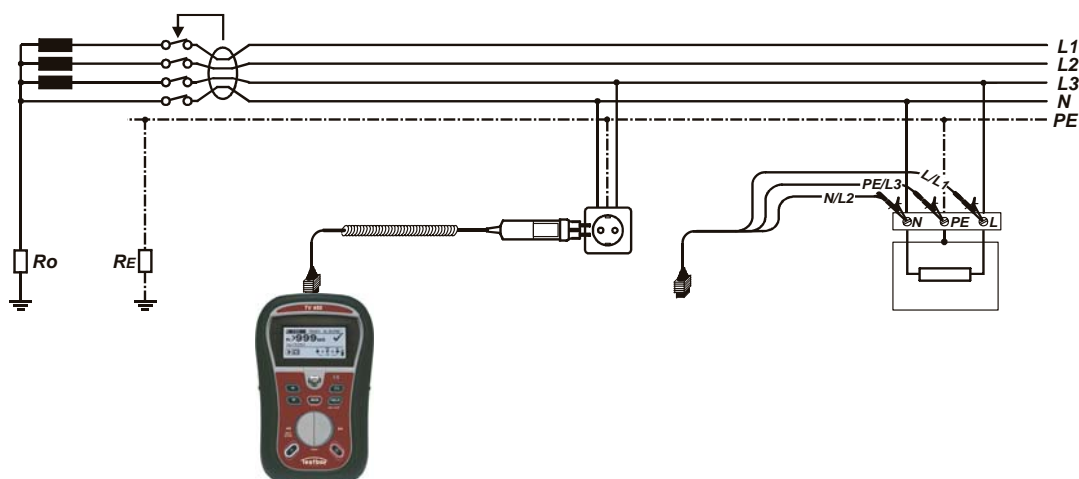

Figure 5.17: Connecting the plug commander and the 3-wire test lead
- ❑ **Connect** test leads to the item to be tested (see figure 5.17).
- ☐ **Connect** test leads to the item to be tested (see *figure 5.17*).
- ☐ **Connect** test leads to the item to be tested (see figure 5.17).
<ul style="list-style-type: none"> <li><input type="checkbox"/> Select the RCD function using the function selector switch.</li> <li><input type="checkbox"/> Set sub-function AUTO.</li> <li><input type="checkbox"/> Set test parameters (if necessary).</li> <li><input type="checkbox"/> Connect test cable to the instrument.</li> <li><input type="checkbox"/> Connect test leads to the to the item to be tested (see figure 5.17).</li> <li><input type="checkbox"/> Press the TEST key to perform the test.</li> </ul>	Start of test